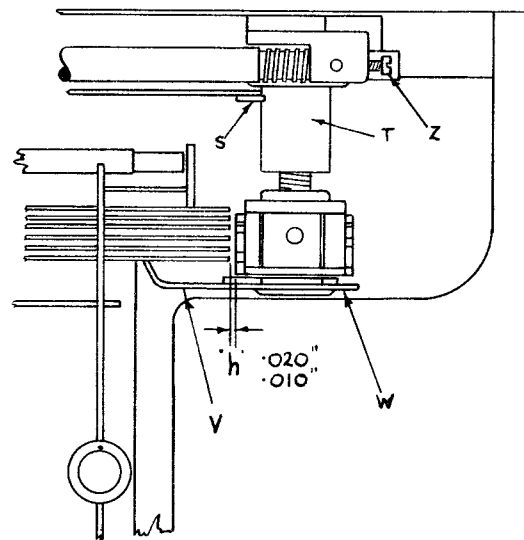

FIG. 24.
39. IF NEW WARDS HAVE BEEN FITTED TO THE ANSWER BACK DRUM, CHECK DIMENSION "h" (FIG 24) FOR EACH WARD. ADJUST BY ALTERING THE ABUTMENT SCREW & SLIDING THE UNIT, WHILST LEVER V IS DISENGAGED FROM SPROCKET WHEEL W. THIS IS THE ONLY ABUTMENT ON THE MACHINE WHICH MAY BE ALTERED. READJUST THE END-BEARING SCREW Z ACCORDINGLY.